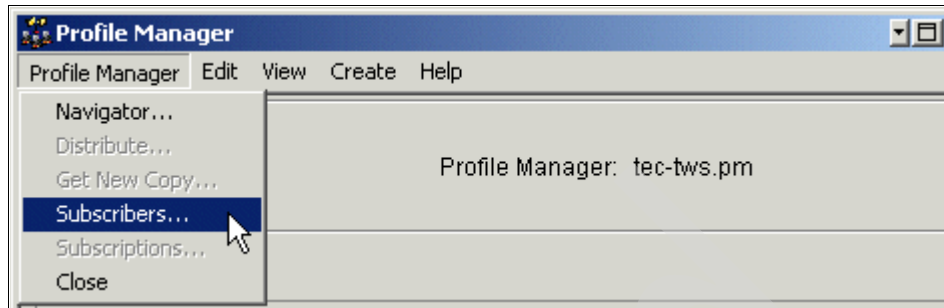

Figure 8-26 Adding a subscriber to the tec-tws.pm profile manager.
8. Add the MDM to the Subscribers of the profile manager. Select **Profile Manager**, and then select **Subscribers...** as shown in Figure 8-26 on page 359.